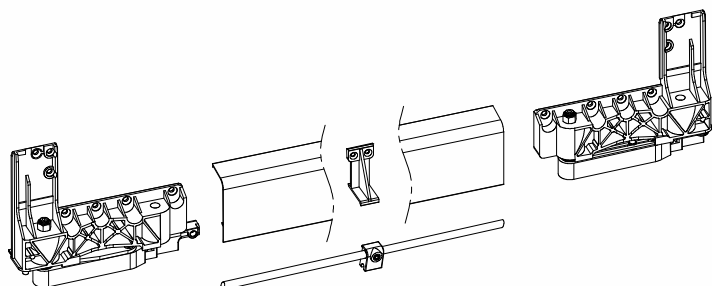

FIGURE.9
- a- Fit the support block on the rod as shown in Figure.9, set the rod in its places on the front and rear carriers and turn to closed position.